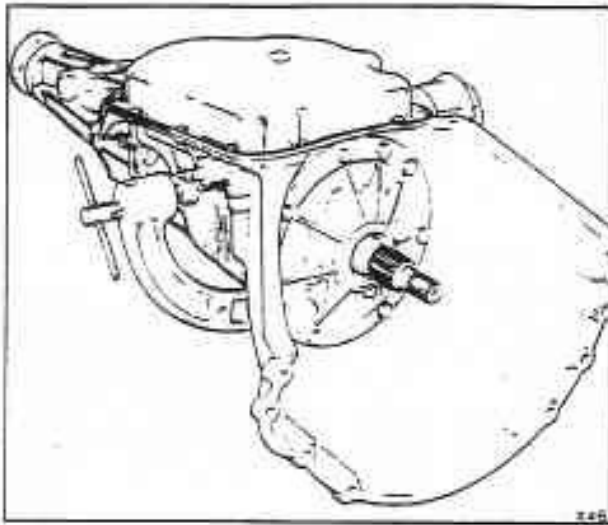

Fig. T6-3 Transmission in holding fixture
30. Fit the transmission into the holding fixture RH 7955 as shown in figure T6-3.